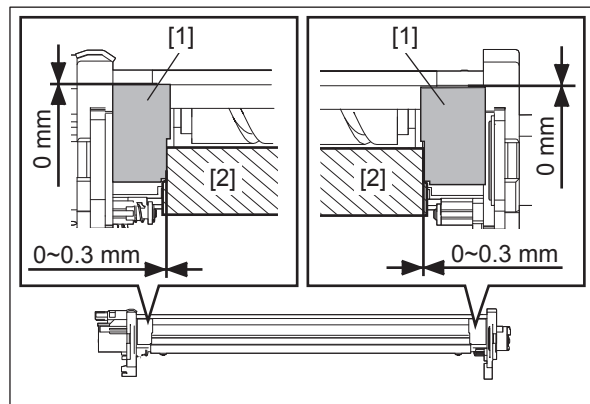
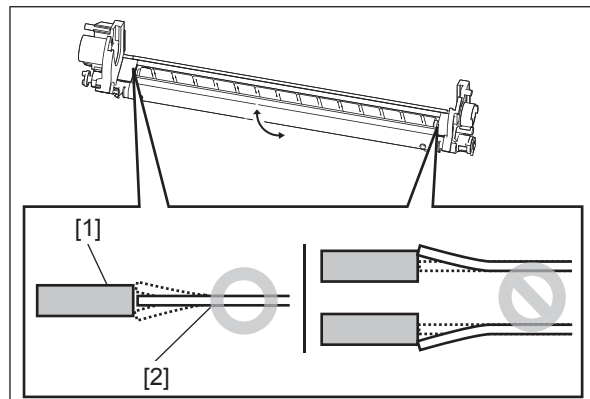

Fig. 4-309
Fig. 4-310
- If not in accordance with P. 4-109"Fig. 4-309" and P. 4-109"Fig. 4-310" of "4.6.5 Blade side seal".